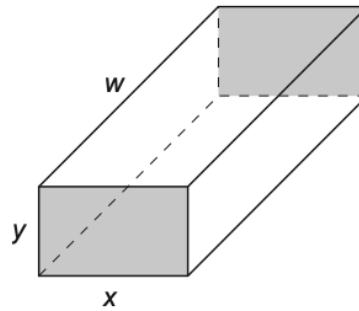

Fig. 3.1
- 21 (a) A uniform metal bar, initially unstretched, has sides of length  $w$ ,  $x$  and  $y$ , as shown in Fig. 3.1.